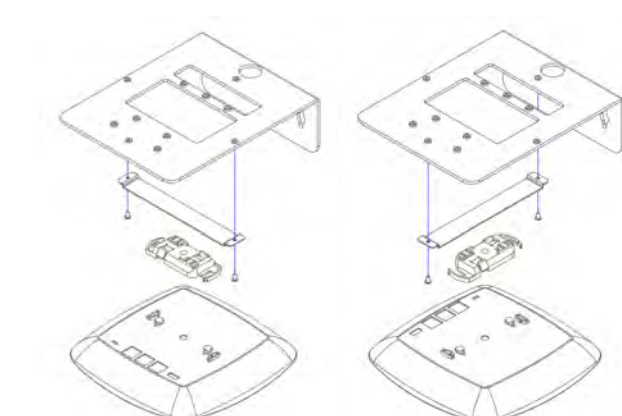

Figure 2
Step 2b (*Other Manufacturers*) – Fasten the provided T-Bar bracket in the best position for the access point, then securely fasten the access point and its respective mounting plate or bracket (Figure 2).